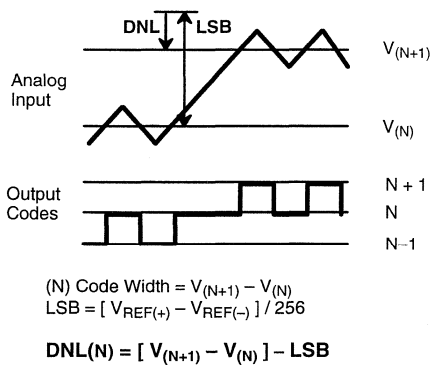
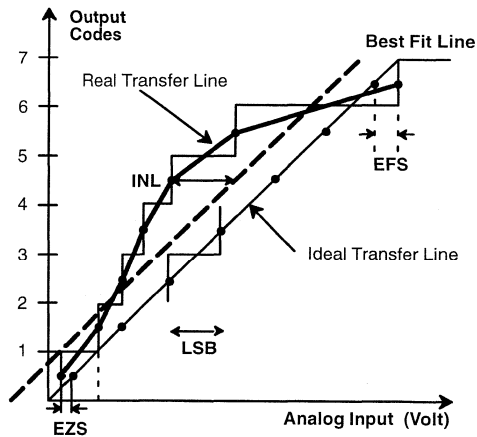

Figure 3. DNL Measurement
Figure 4. INL Error Calculation
- 1 Tester measures code transitions by dithering the voltage of the analog input (VIN). The difference between the measured and the ideal code width ($V_{REF/256}$) is the DNL error (Figure 3). The INL error is the maximum distance (in LSBs) from the best fit line to any transition voltage (Figure 4). Accuracy is a function of the sampling rate (F_S).
Figure 4. gives a visual definition of the INL error. The chart shows a 3 bit converter transfer curve with greatly exaggerated DNL errors to show the deviation of the real transfer curve from the ideal one.